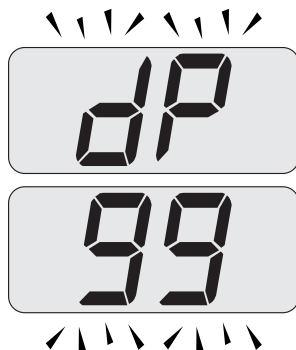

Fig. 9.23
- Press further key 16 to vary again the output in chimney sweep mode: when the LCD display displays the letters **dP** that alternate with the heating water temperature value (e.g. **99**), the "chimney sweep function" is at maximum output in domestic hot water mode (Fig. 9.23).